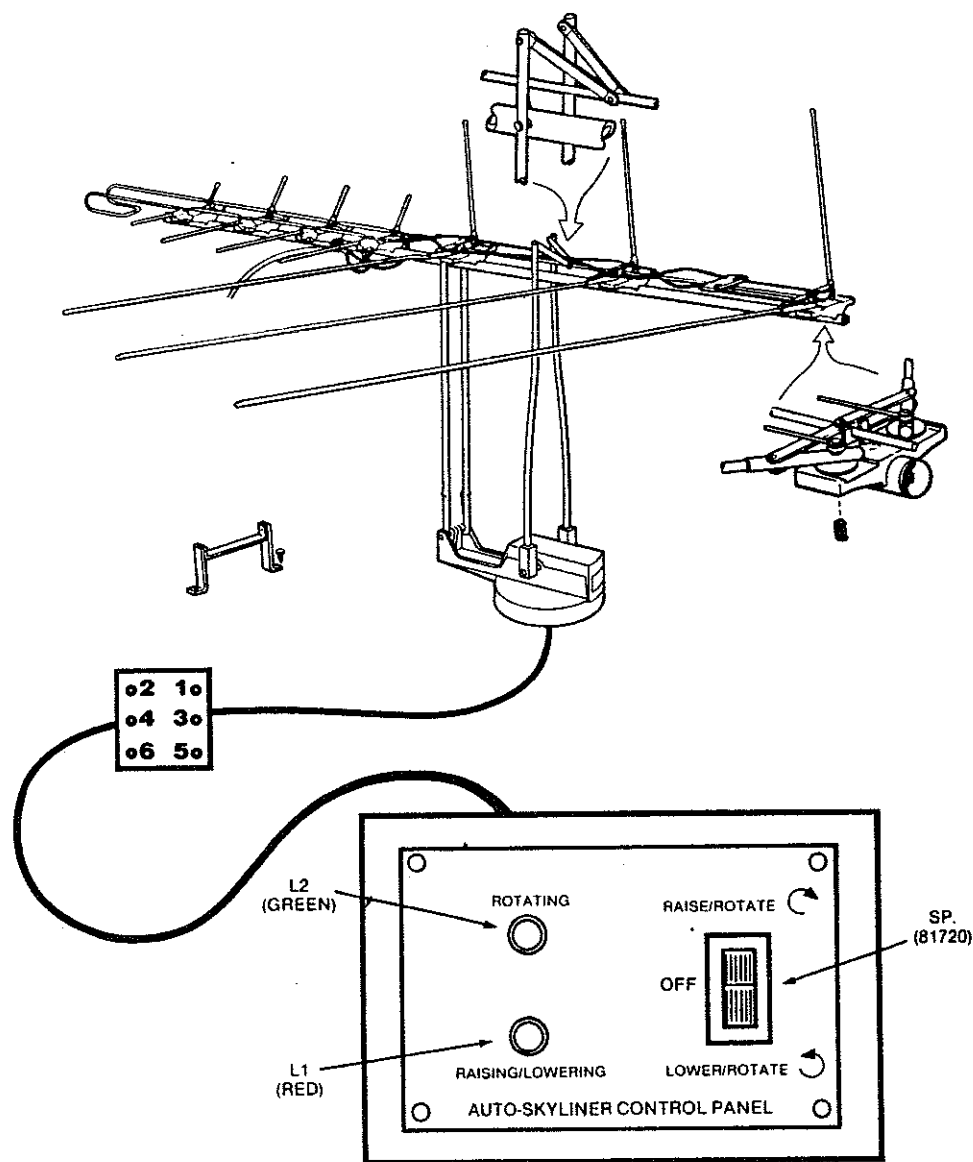

Figure 15.
The control panel (Fig. 15) located on the interior wall of your motorhome contains a "center off" rocker switch (81720), red lens assembly (81725) and green lens assembly (81724). Located on the rear of the panel are the two lamps (81723), wire harness (12531) with 6-pin connector (81719) for connection to the control cable (12533). Also provided is a black wire for 12-volt positive and a white wire for 12-volt negative/ground connections.
With the control panel switch (SP) (Fig. 15) in the center position, the unit is OFF.